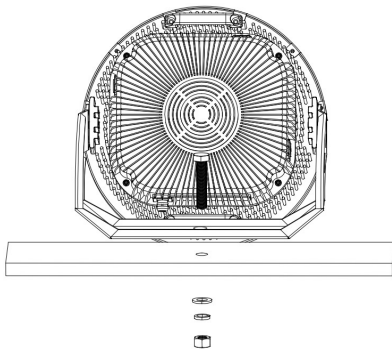
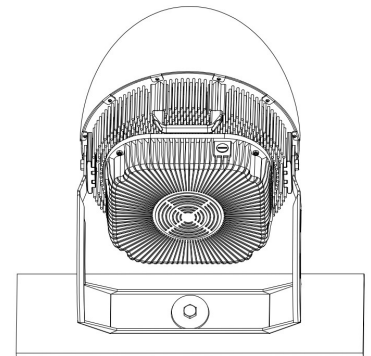

FIG.10
FIG.12
- 2) Put bolts into the round plate, through the drilled holes. Put flat washer and spring washer on the bottom of the bolt, lock with nuts.(See FIG.10 to FIG.12). Please use M20 bolts 60~120 mm long (not provided).